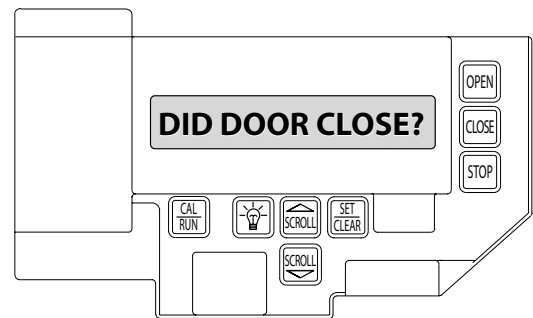
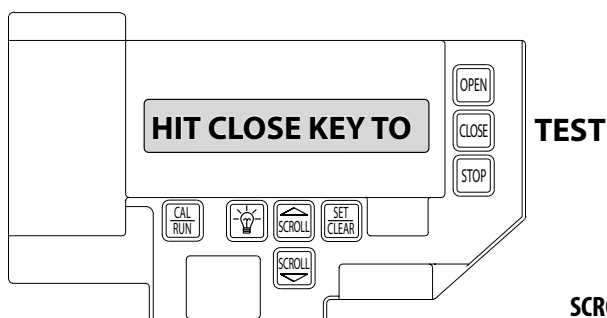

FIG. 3
FIG. 2
3. Display will read 'HIT CLOSE KEY TO TEST'. Briefly press the CLOSE key. FIG. 2 (Pressing the Scroll key at this point will exit this function). \* The display will read 'DID DOOR CLOSE >YES< NO' FIG. 3.